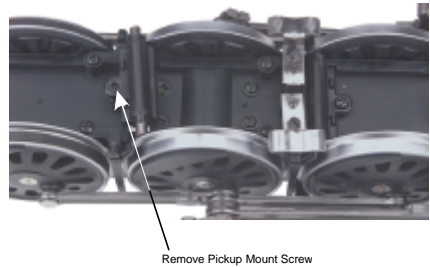

Figure 15: Locate and remove the pickup
3. Next, locate the pickup assembly behind the middle set of drive wheels and remove its mounting screw as seen in Fig. 15.